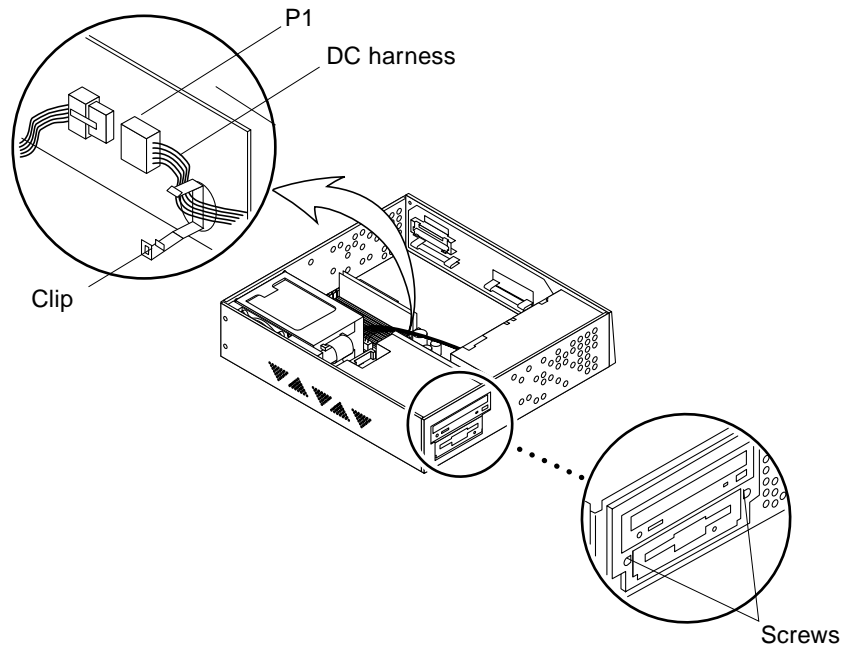

Figure 2-10 Drive Bracket
1. Remove the two screws from the chassis that secure the drive bracket (Figure 2-10).
2. Remove the DC harness from the clip located on the drive bracket (Figure 2-10).